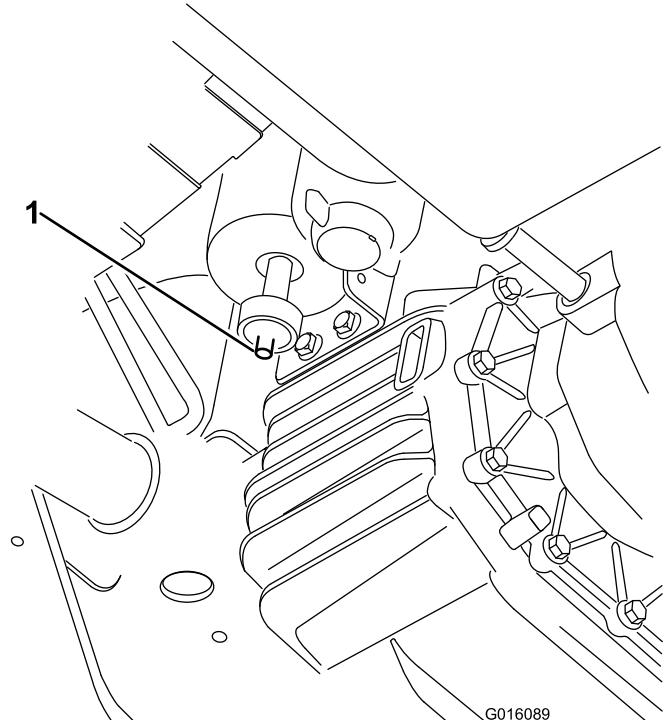

Figure 37
1. Locate the air filter on the bottom of the carbon canister (Figure 37).